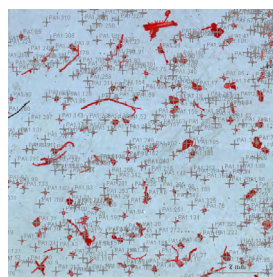

Figure 1: Silicon filter with atmospheric deposition of microplastics. Particles were selected in the size range of 25 μm – 1.5 mm.
1. Choose the target analysis region and define the size range for particles. See Figure 1.